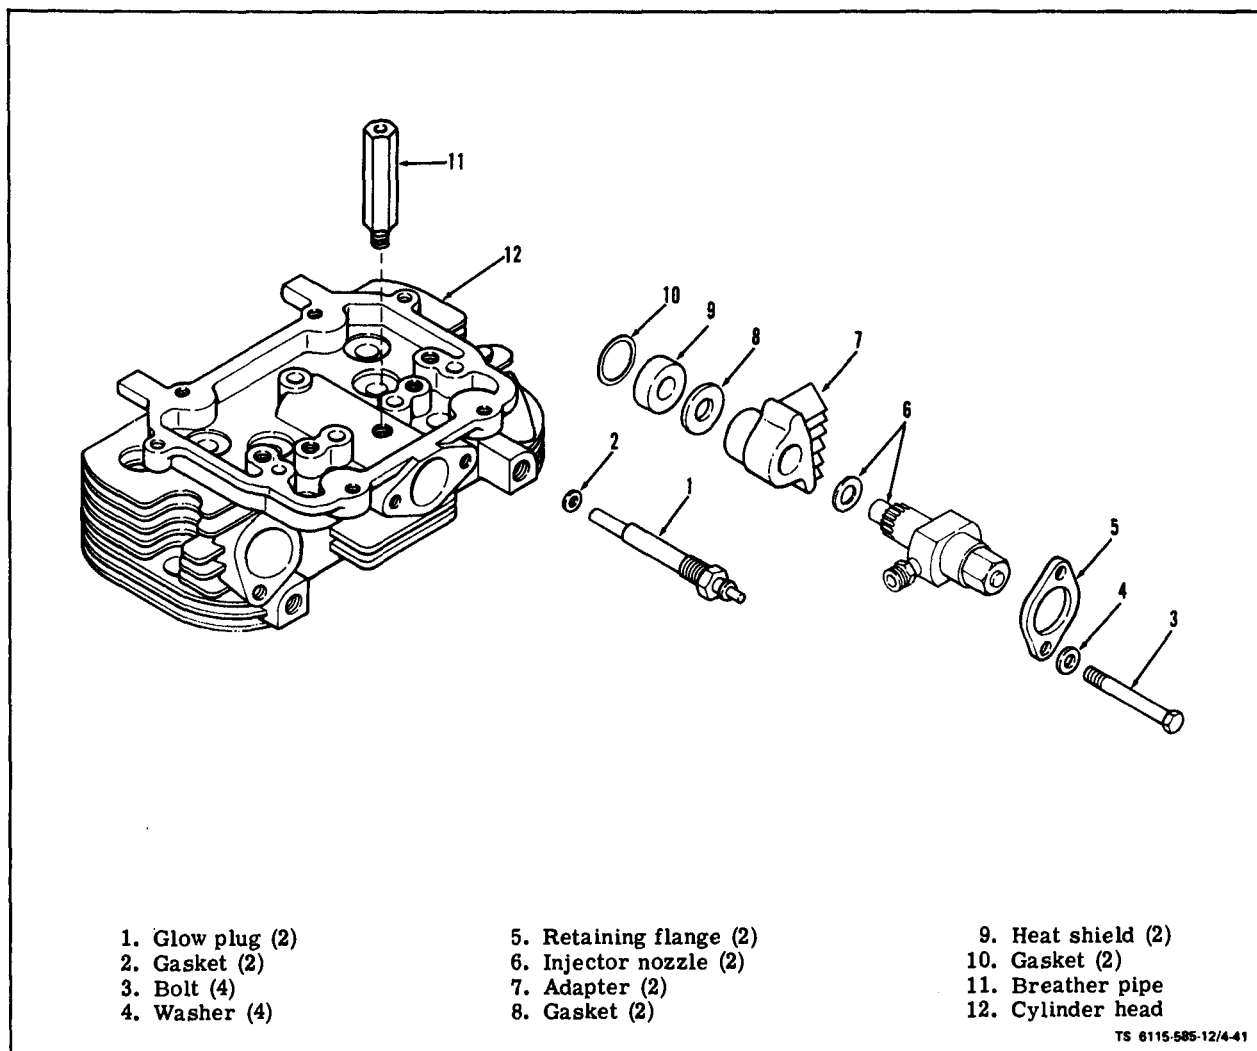

Figure 4-41. Cylinder Head Assembly
a. **Inspection.** Inspect breather tube (11, figure 4-41) for clogging every 500 hours. Clean out opening in breather tube with small wire if obstructed.
(1) Injector Nozzle Assembly (see figure 4-41). Inspect for leaking fuel. Inspect fuel fittings for tightness.
(2) Fuel Lines. Inspect fuel lines for leaks and damage to fittings.
a. Inspect (see figure 4-41). Inspect glow plugs for physical damage. Check that electrical lead to glow plug is clean and tight. Check for leakage where the glow plug enters cylinder head.
d. Install. If gasket (2, figure 4-41) has been removed, place new gasket over glow plug. Coat plug threads with anti-seize compound and screw glow plug into cylinder head. Tighten glow plug 10 to 15 ft-lb, dry. Attach electrical lead to plug. On ASK equipped generators, install top panel (para. 5-4).